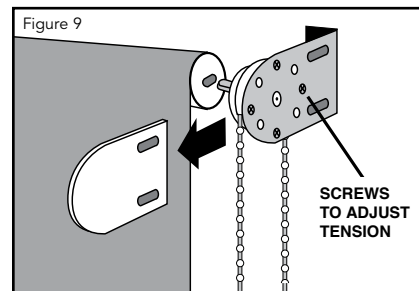

Figure 9
If chain tension is too tight (chain is difficult to pull), slide off bracket cover and loosen four (4) screws; turn counter clockwise. See (Fig. 9)
If chain tension is too loose (chain pulls too easily), slide off bracket cover and tighten four (4) screws; turn clockwise. See (Fig. 9)